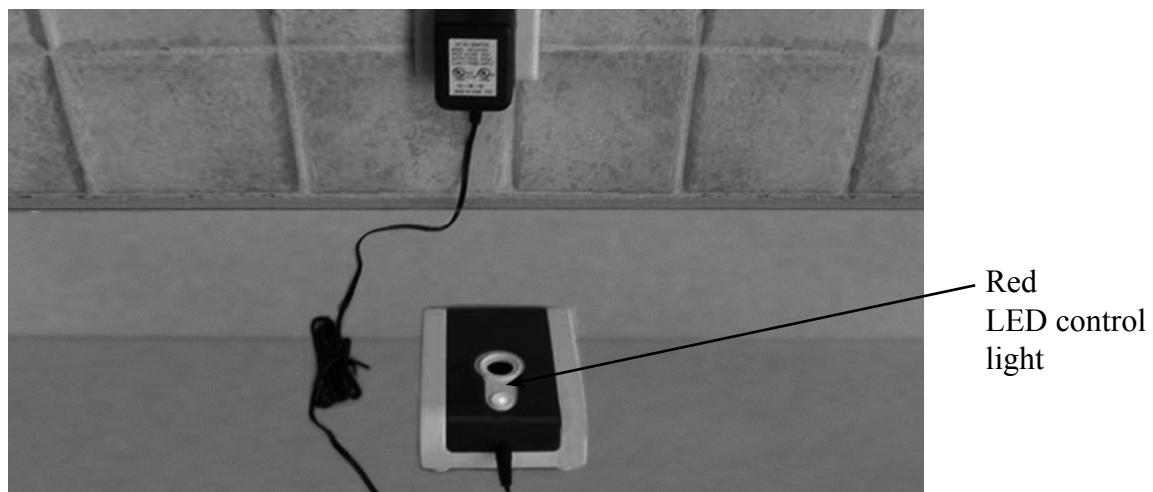

Figure 9
9. Install the remote siren, in a maximum distance of 30 m from the base unit, into your house in a location where it will be audible all around the house, if the alarm goes off. Turn the remote siren and remove the screw with a Phillips head. Install a single 9V long-life alkaline battery. Replace the cover. Connect the remote siren (C) to the outlet adaptor (D). Then place the siren on a horizontal surface or fasten it to the wall near an electric outlet. Connect the adapter to the outlet (see Figure 9) The siren will sound two short signals confirming its operation and a red control light will turn on. In the event of a power outage (power outage or accidental disconnecting) the siren will use the auxiliary battery; one alkaline battery can power the siren for approximately one hundred hours. In this case the siren will still continue to receive the signal from the main unit of the alarm and the siren will sound if the alarm goes off. However, we recommend having the siren connected to the power outlet during day-to-day use. If the battery in the main unit of the alarm is low, the siren will sound a warning every 8 seconds to signal that the battery needs to be changed. If the battery in the siren is almost out of power, it will sound an uninterrupted signal, but with low intensity.